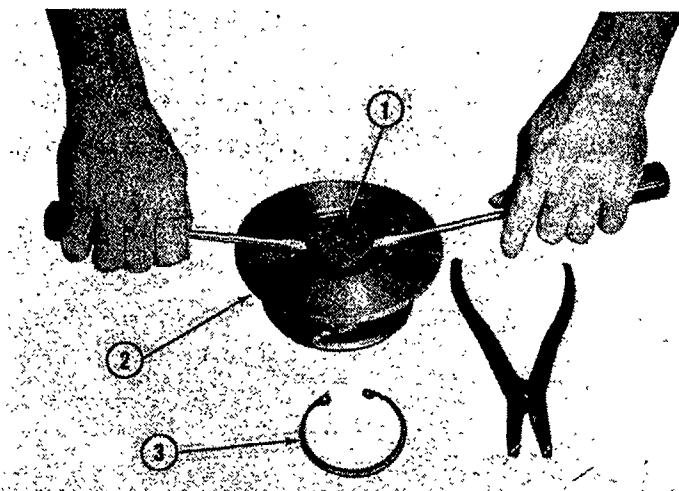

Figure 6
Place the housing on a clean flat surface with the compressor side up as shown in Figure 6. Remove the snap ring retaining the compressor insert. Place a hand over the snap ring while removing it to prevent either loss of the ring or personal injury.
8. Using two screwdrivers, gently lift the insert from the bearing housing as shown in Figure 6. Remove and discard the O-ring from the insert.